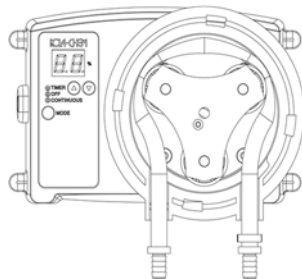

Figure 5
- 7) With MODE set to OFF, lay Pinch Tube Assembly in outlet port as shown in Figure 5.